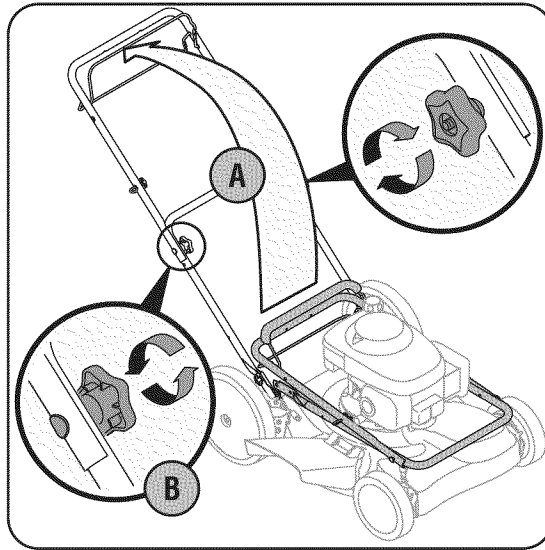

Figure 3-1
- Pull up and back on upper handle as shown in Figure 3-1. Make certain the lower handle is seated securely into the handle mounting brackets.